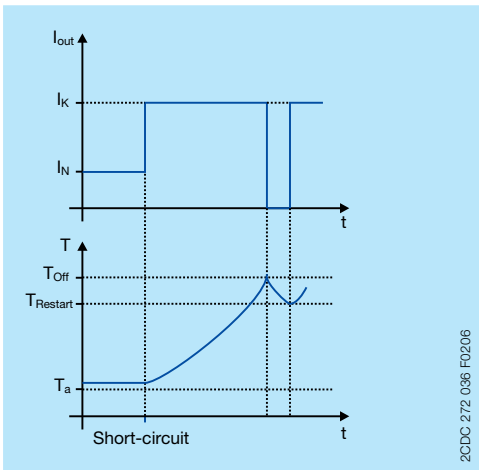

Figure 15 Thermal switch-off
- The device only switches off the output and does not switch it on until the temperature falls below a certain limit value (refer to Figure 15). This is the most frequently used method for modern power supplies.